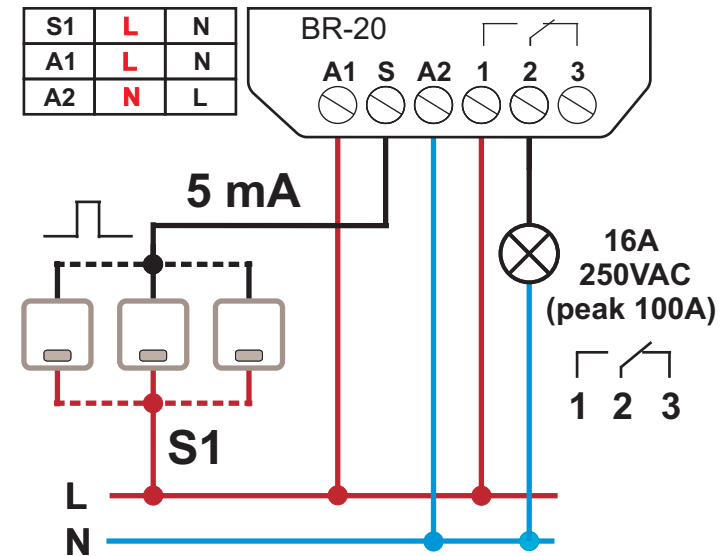

Fig .3 .An exemplary diagram of the connection of the BISTABLE RELAY BR 20 along with a table of possible connection variants .
2. connect the RELAY according to one of the diagrams (fig. 3, fig. 4) in the options: